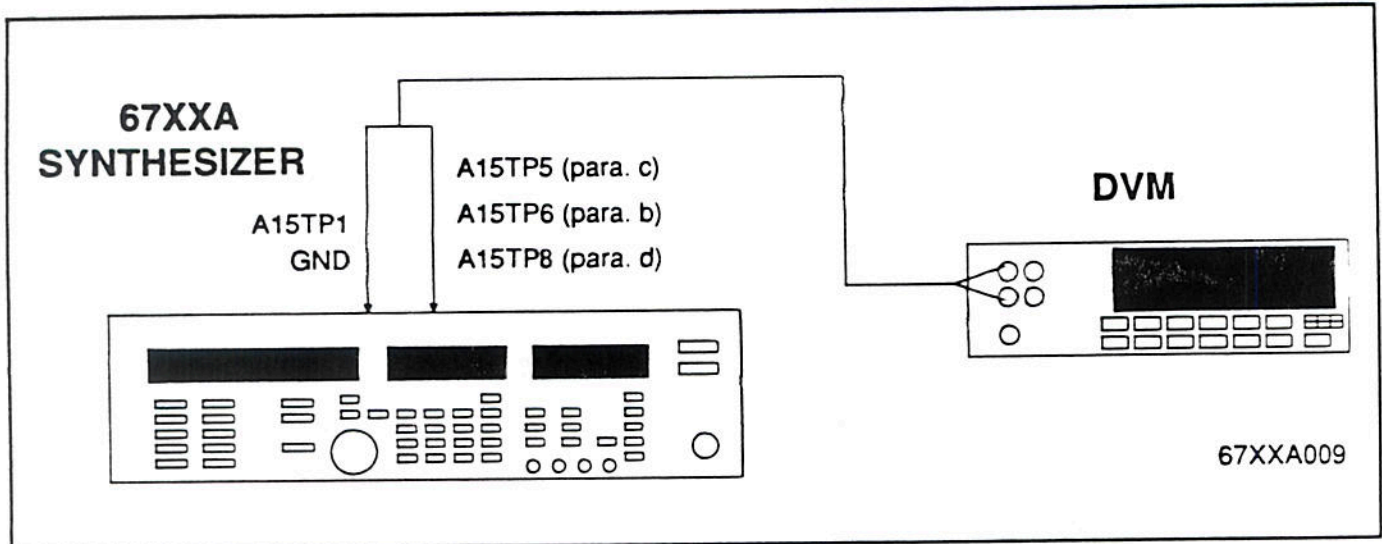

Figure 3-2. Test Equipment Setup for ALC Level Offset Adjustments
a. **Test Setup.** Connect the equipment as shown in Figure 3-2 and turn the equipment on.
6. Connect a digital voltmeter (DVM) between A15TP7 (+) and A15TP1 (-) (see Figure 3-2).
3. Connect the digital voltmeter leads between A15TP4 (+) and A15TP1 (-) (see Figure 3-2).